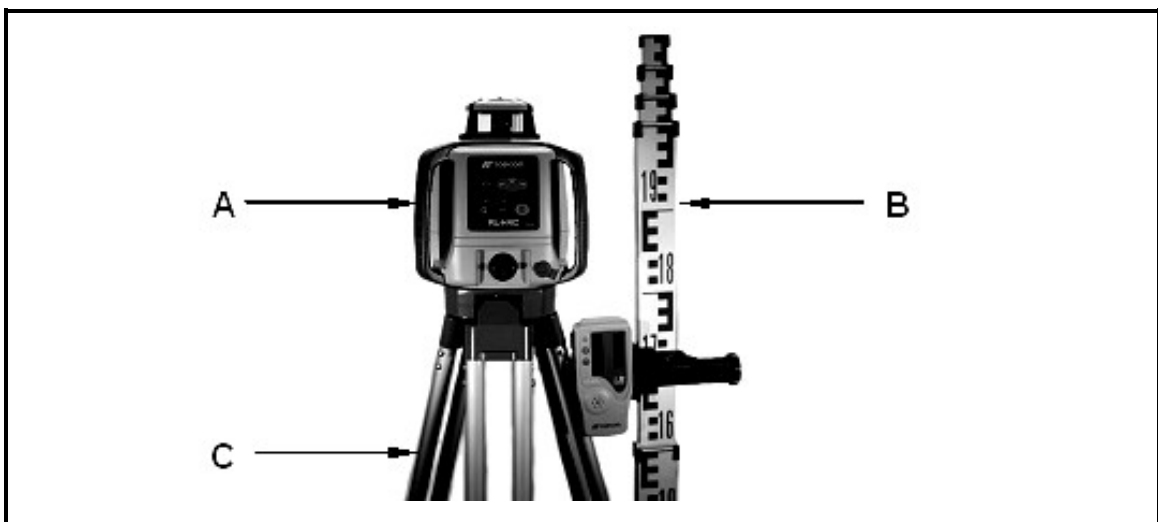

FIGURE 2.2
2.2 FIGURE 2.2 below shows a surveying tool used on a construction site. Study the figure and answer the following questions.